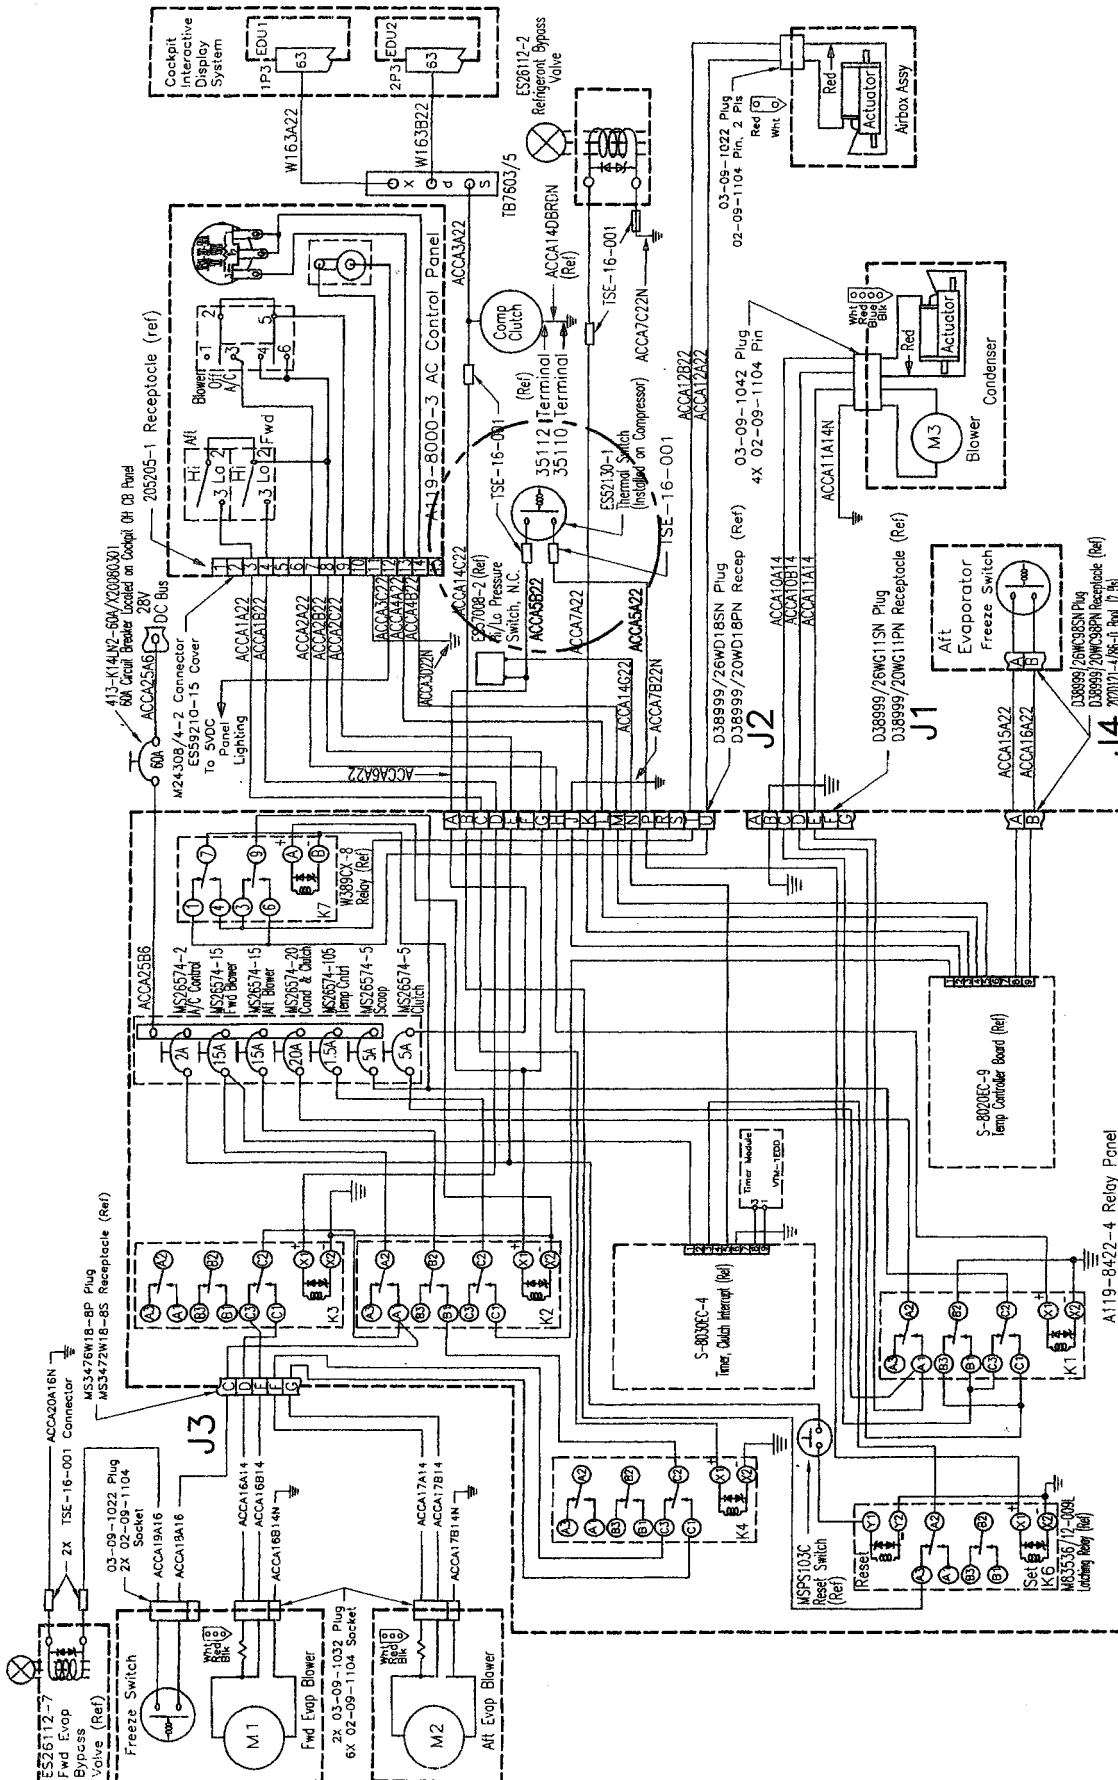

Figure 1.1
5. Disconnect and Cap wires ACCA5A22 & ACCA5B22 connecting to the compressor temperature sensor wires using two each 35115 caps, and secure wires as necessary. (Figure 1.1)